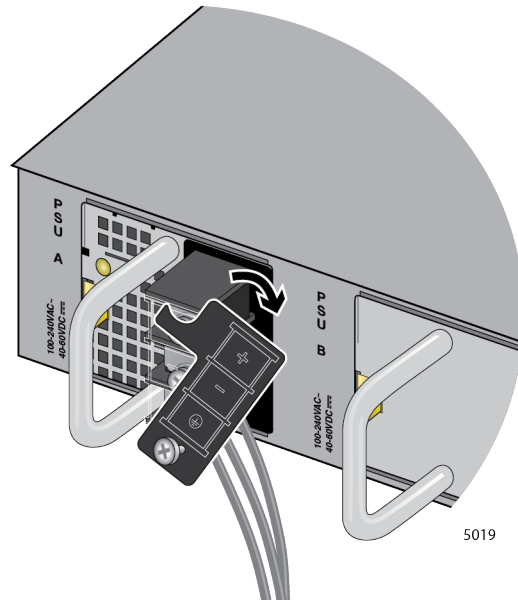

Figure 150. Accessing the Connecting Screws
3. Press the panel to the right to access the connecting screws as shown in Figure 150 on page 253.